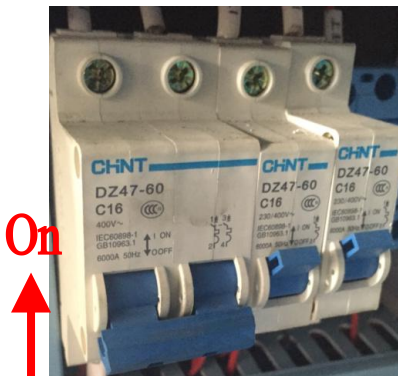

Fig. 3-1 Main power switch and leakage switch
5. Switch on the main power switch, and then the leakage switch in the electrical box (see fig. 3-1).